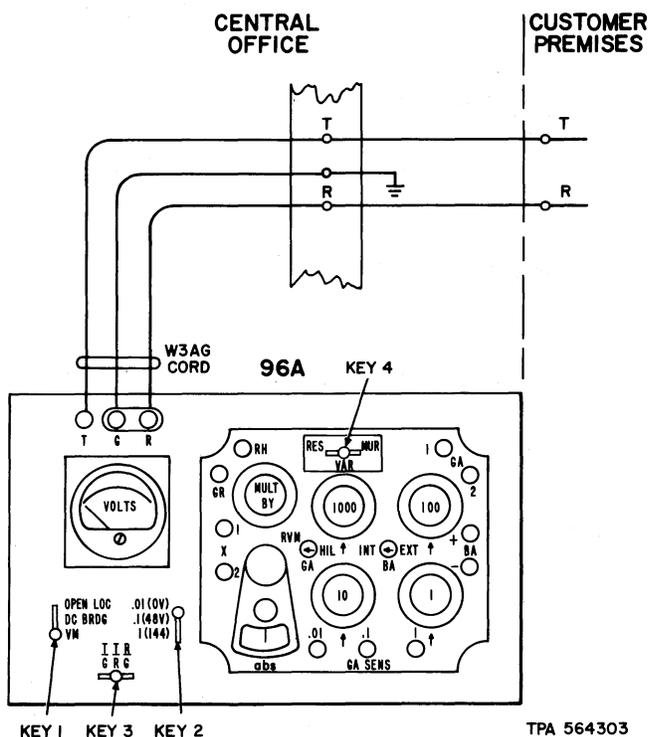

Fig. 10—Foreign EMF and Insulation Resistance Test
3.02 Connect the tip and ring sides of the pair to be tested and central office ground to the T, R, and G binding posts, respectively, of the 96A Test Set with W3AG Cord (Fig. 10).